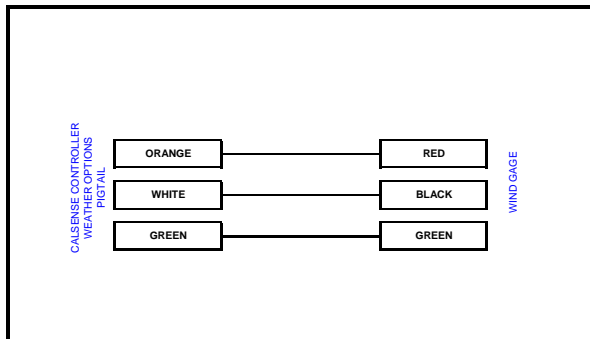

Figure 1
- 3). The Calsense irrigation controller has a pigtail cable for reading wind speed. The (-WG) pigtail cable has three, 22 AWG wires; one (1) Green, one (1) Orange, and one (1) White. Connect these wires accordingly to the green, red and black 22 AWG wires found in the 60 foot, conductor cable of the wind gage. (Figure 1).